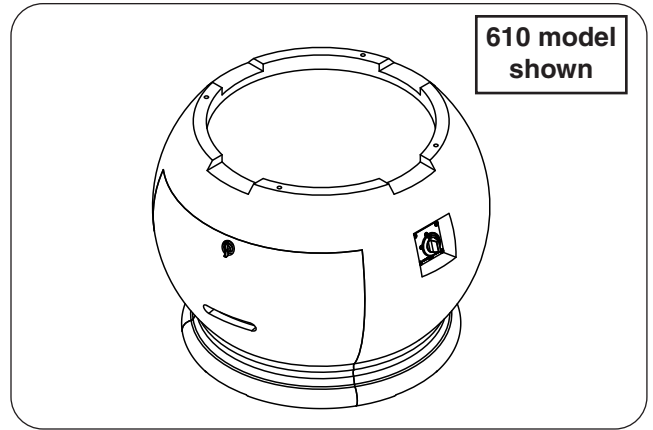

Fig. 28-1 Place base
1. **CAREFULLY** place the base in an appropriate location (see Fig. 28-1, and refer back to the LOCATION section if needed).